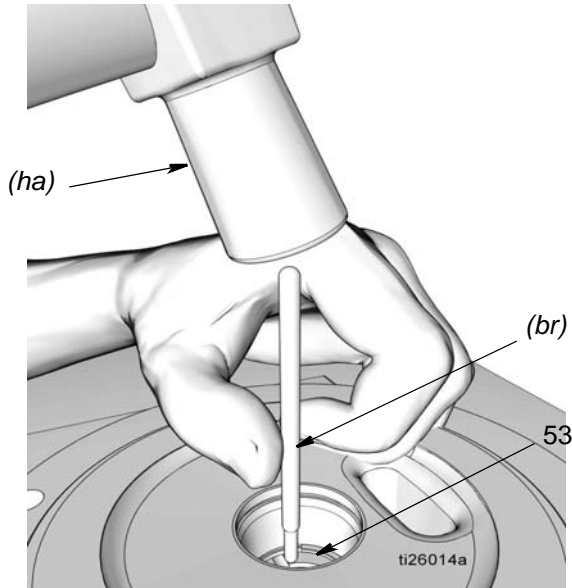

FIG. 27
19. Use a soft brass rod (*br*) and hammer to gently tap the pump element sleeve (53) out of the pump base (1) (FIG. 27).